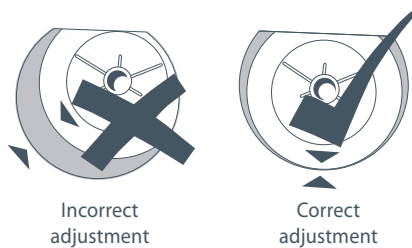

Fig.7
- 5 Open the lid and check the washer tub to see that it sits slightly forward of centre. (See Fig. 7).